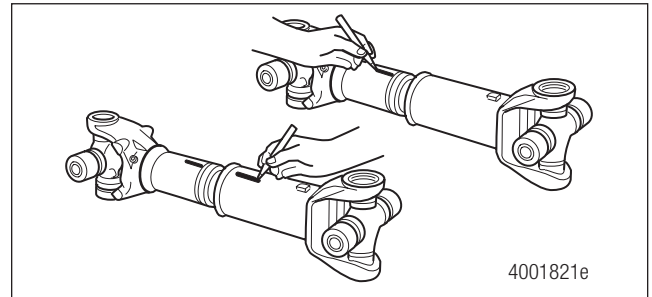

Figure 9.6
1. Mark the slip yoke and slip shaft sections to ensure that you reassemble them into their original positions. Figure 9.6.